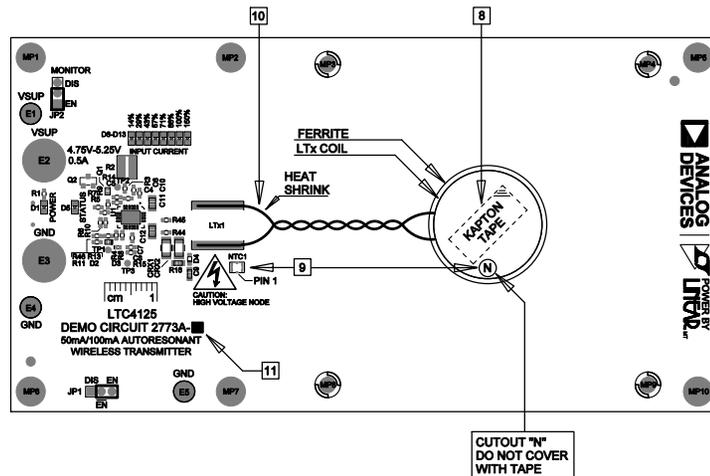

FIG 1.
8. CUT KAPTON TAPE TO LENGTH 0.570" in. x 0.570" in. AND PLACE AS SHOWN ON TOP OF BOARD. NOTE: DO NOT COVER HOLE (N) WITH TAPE.
9. CONNECT NTC ASSEMBLY 1 TO JSC CONNECTOR AS SHOWN IN FIG1. (NOT TO SCALE) NOTE: NTC ASSY1 RESISTOR REQUIRES THERMAL EPOXY (DOW CORNING 3-6752) SEE FIG 2. AND STEPS LISTED BELOW FOR PROPER PROCEDURE.
STEP 1: ATTACH LTX1 TO BOARD, USE SILK SCREEN FOR LOCATION AND ENSURE LEADS OVERLAP PADS. LAY BOARD WITH LTX1 DOWN, PUSH NTC1 AGAINST BOTTOM OF LTX1 THROUGH HOLE (N). DON'T DISLODGE LTX1, VERIFY NTC1 IS IN CONTACT WITH THE FERRITE.
STEP 2: FILL HOLE (N) WITH THERMAL EPOXY.